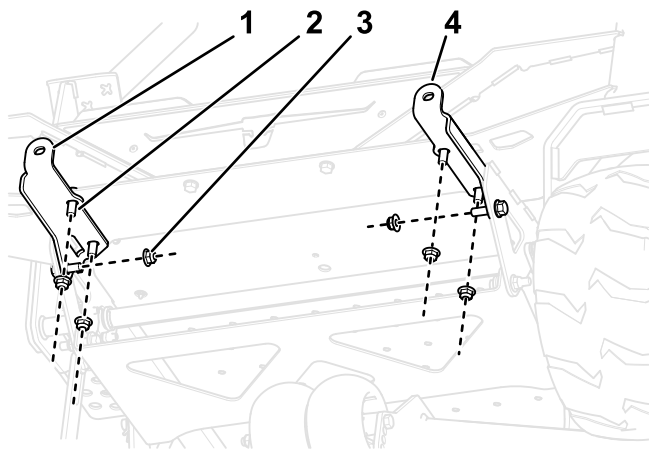

Figure 3
1. Use 6 bolts (3/8 x 1 inch) and locknuts (3/8 inch) to secure the left and right weight mounts to the front of the machine as shown in Figure 3.